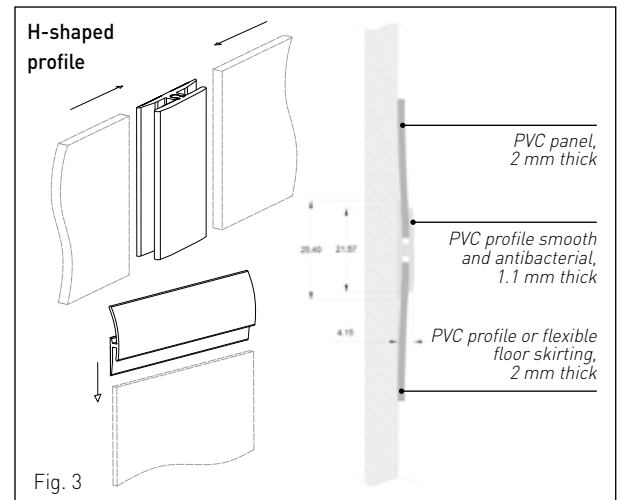

Fig. 3
- It is important to clean all of the panel's smooth surface (glue side) using a tack rag before each gluing session (see Fig. 3).
Vertical fitting for joints between panels - H-shaped profile (see Fig. 3).
- Glue the panels to the H-profile mounting base (see Fig. 3).
- Apply a bead of adhesive sealant along the centre of the cover and glue to the mounting base (H-shaped profile) (see Fig. 3).